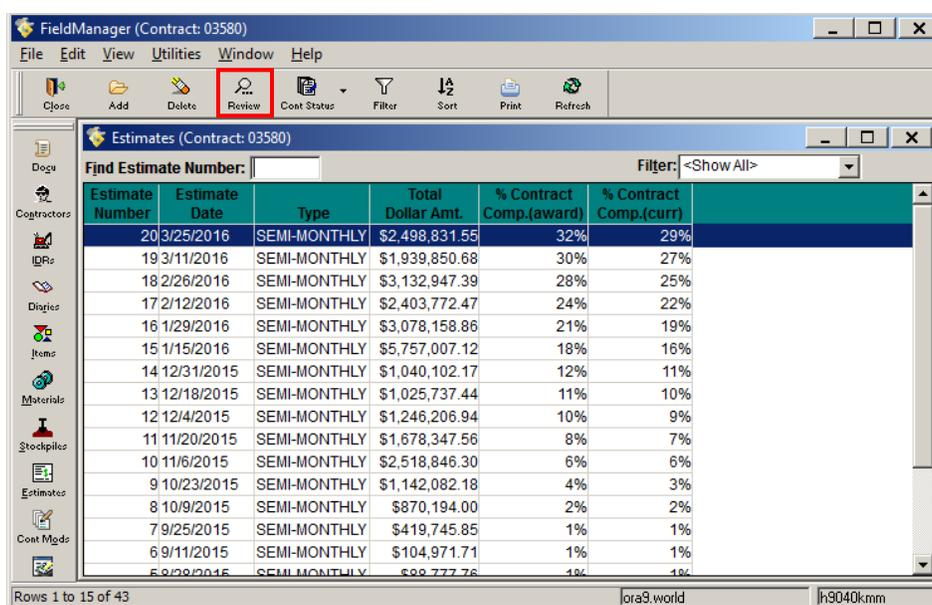

Figure 11-16. Estimates List Window
2. Select the estimate to review and click **Review** on the Window Toolbar (Figure 11-16).